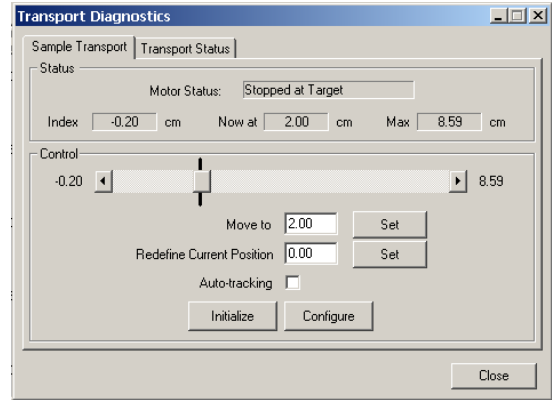

Figure 7. Transport Diagnostics dialog
1. Open the **Transport Diagnostics** dialog box shown in Figure 7 (**Utilities >> Diagnostics >> Transport**).